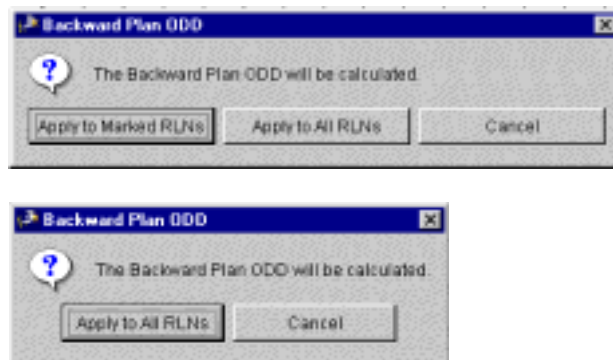

Figure 5.216 Backward Plan ODD Windows
6. Click OK. The Buffer Days window closes, and one of two Backward Plan ODD windows opens (Figure 5.216).